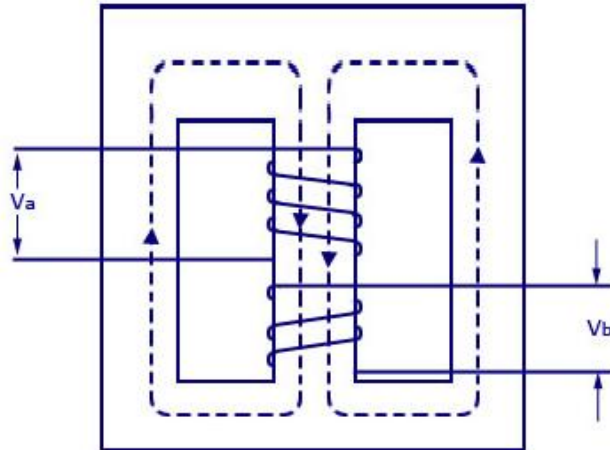

Fig.3.3
7. For large, the cross section of the core should be either square (or) stepped as shown in the fig.3.3.